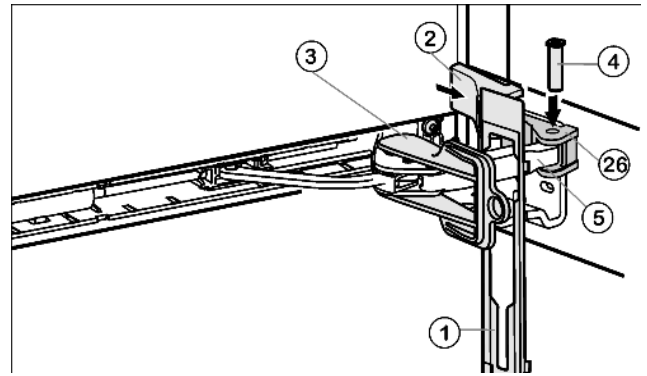

Fig. 15
- ▶ Attach the faceplate Fig. 15 (1) to the soft stop bracket so that the catches face forwards and the front faces the appliance.
- ▶ Draw the soft stop bracket Fig. 15 (5) towards the bearing part Fig. 15 (26) and re-insert the pin Fig. 15 (4) from above so that the square sits in the recess.
- ▶ Attach and engage the cover Fig. 15 (2).
- ▶ Twist the safety lock Fig. 15 (3) for removal.
- ▶ Slide the faceplate Fig. 15 (1) onto the door and snap it into place.